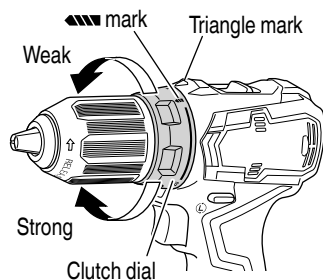

Fig. 11
6. Confirm the clutch dial position (See Fig. 11). The tightening torque of this unit can be adjusted according to the clutch dial position, at which the clutch dial is set.
- (2) Tightening torque indication (See Fig. 11)
- (3) Adjusting the tightening torque (See Fig. 11)